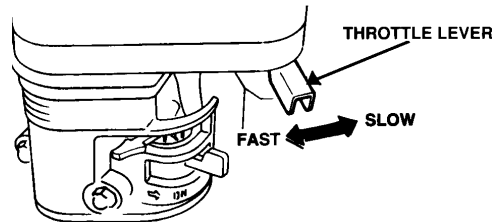

Figure 23. Throttle Lever
1. Place the **engine throttle lever** (Figure 23) in the **SLOW** position, and listen for the engine speed to decrease. Allow engine to run for 2 or 3 minutes for proper cooldown.